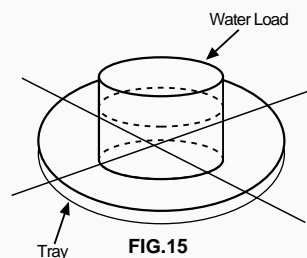

FIG.15
- The oven and the empty vessel are at ambient temperature prior to the start of the test. The initial temperature of the water is 10 ; 2;€(50 ; 3.6;€). It is measured immediately before the water is added to the vessel. After addition of the water to the vessel, the load is immediately placed on the center of the shelf which is in the lowest normal position. (Fig. 15).